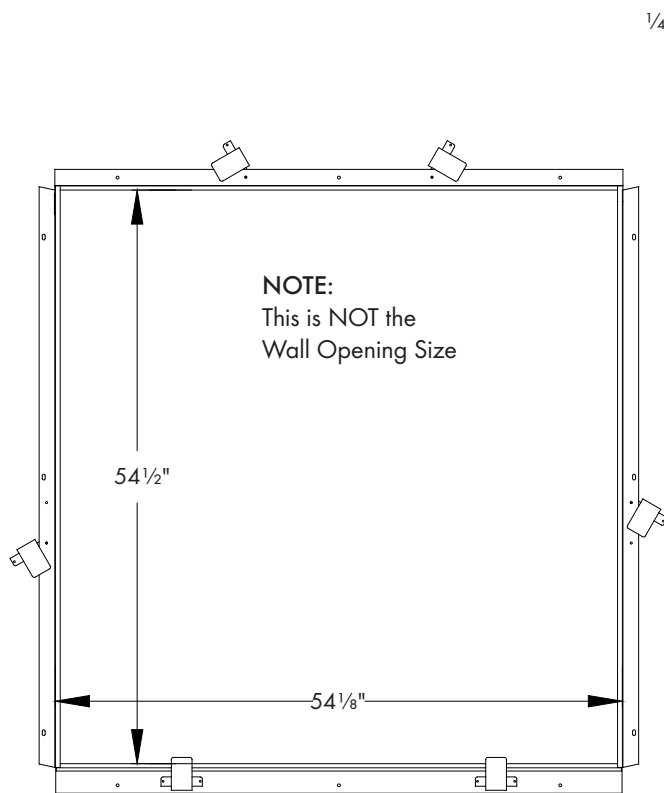
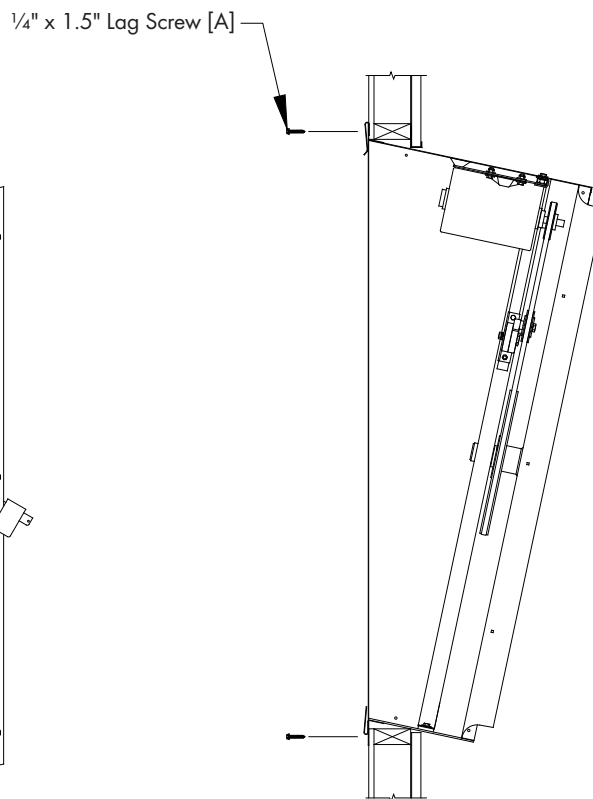

Figure 3A
Figure 3B
Confirm that housing inside dimensions match those shown in Figure 3A. Then secure housing to wall using (12) Lag Screws [F], through holes in each mounting flange. See Figure 3B.